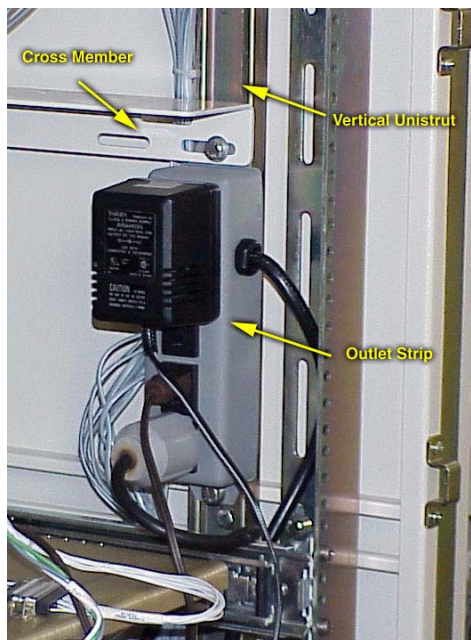

Figure 4. Outlet Strip Installation
1. Referring to Figure 4, at the back of the ACU cabinet remove the top screw, lockwasher, and flat washer, from the vertical unistrut and 1A3 cross member on the right side of the cabinet.